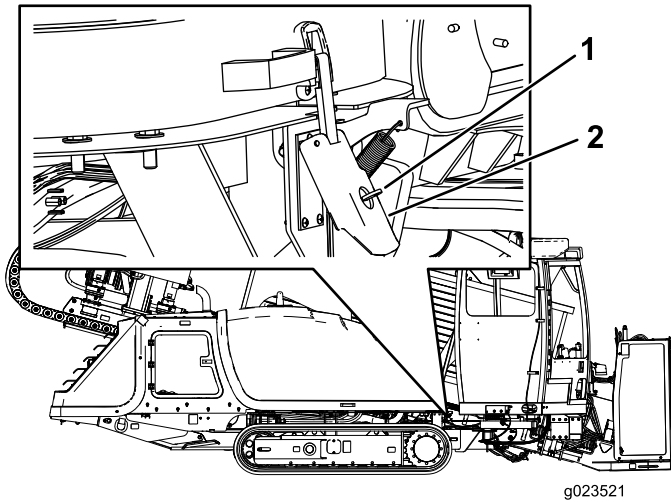

Figure 98
2. Lift up on the latch as shown in Figure 98.
Note: Ensure that the key is in the open (horizontal) position as shown in Figure 98.